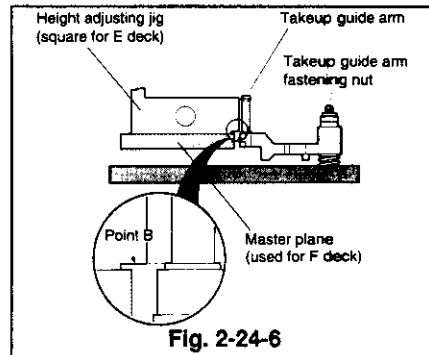

Fig. 2-24-6
- ① Place the height adjusting jig (for the F deck) in the reference position on the main plate (Refer to Fig. 2-20-3). Tighten the takeup guide arm fastening nut so that the lower flange of the takeup guide arm is level with point B of the height adjusting jig (for the E deck). (Refer to Fig. 2-24-6).